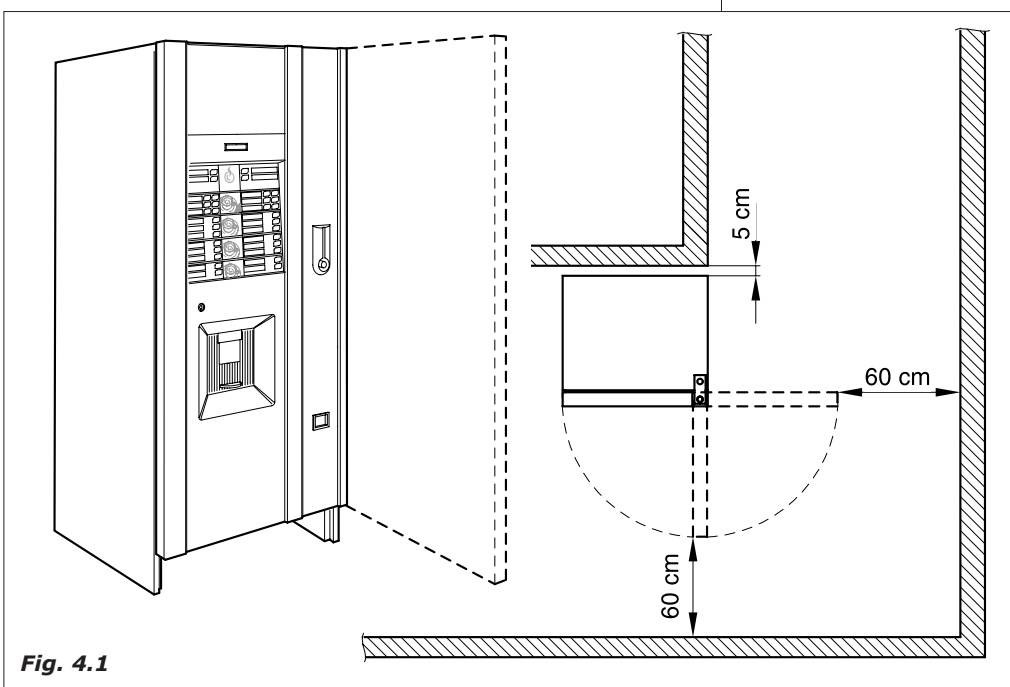

Fig. 4.1
- If positioned near to a wall, there must be a minimum distance from the wall of at least 5 cm. (Fig.4.1) so as to allow a regular ventilation. In no case cover the distributor with cloths or similar.
If the installation is made in safety evacuation corridors make sure that with the distributor door open there is anyhow sufficient space to pass by (Fig.4.1).